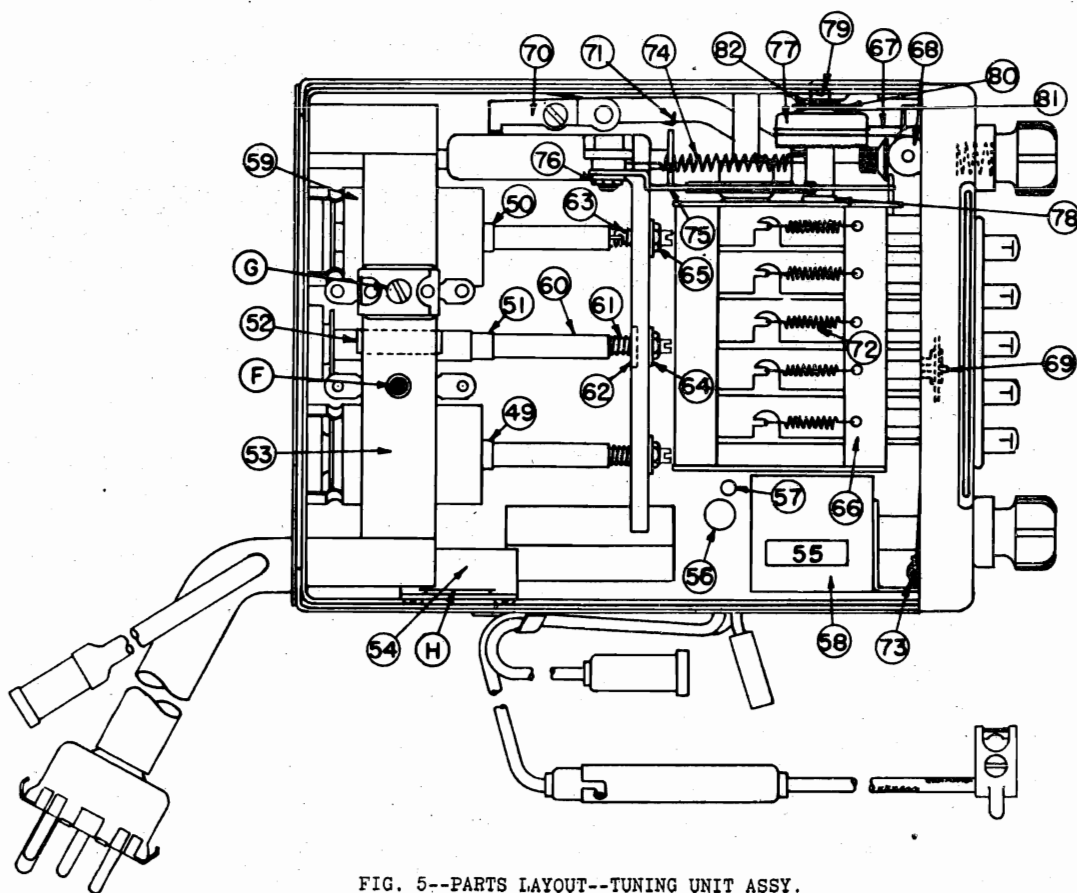

FIG. 5--PARTS LAYOUT--TUNING UNIT ASSY.
- (c) Tune the set to signal and using wrench, part #7238078, adjust the position of the iron core in the R. F. coil (Illus. #2, Fig. 5) for maximum output meter indication.
- (d) Adjust the position of the iron core in the antenna coil (Illus. #1, Fig. 5) for maximum output. DO NOT TOUCH THE ADJUSTMENT OF THE OSCILLATOR COIL IRON CORE.
- (b) Unsolder blue lead and black lead from either end of trimmer "G" (Fig. 5).
- (c) Unsolder green lead from high side of trimmer "F" (Fig. 5).
2. The position of the R.F. coil shunt condenser (Illus. 39, Fig. 5) should not be changed. Changing its position causes this stage of the radio to be detuned.
- (c) Set frequency of the signal generator to exactly 1560 kilocycles and adjust the oscillator shunt trimmer condenser "F" (Fig. 5) for a maximum output.
- (d) Adjust the R.F. trimmer condenser "G" (Fig. 5) for maximum output.
- (e) Adjust the antenna trimmer condenser "H" (Fig. 5) for maximum output.